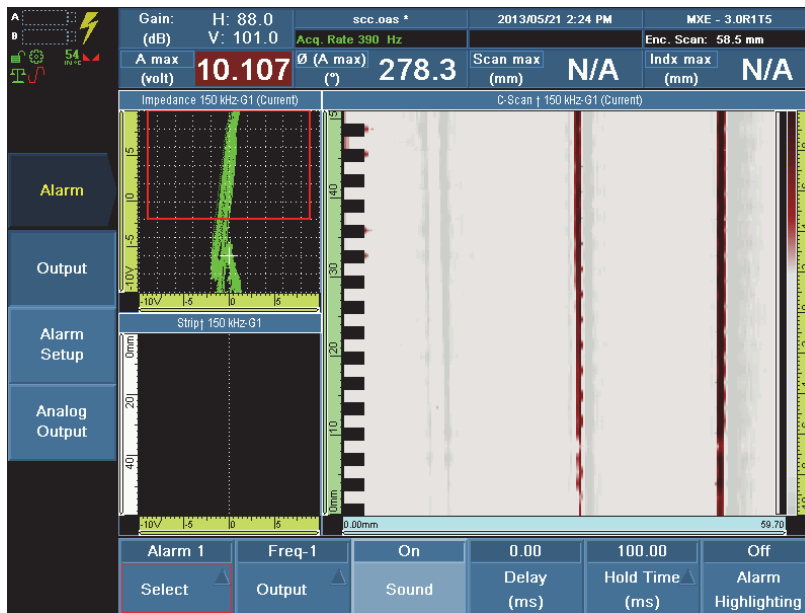

Figure 13-41 Setting an alarm for the accept/reject criteria
- Set an alarm. Select **Alarm > Alarm Setup** (see Figure 13-41 on page 292). For more information, see chapter 8 on page 137.